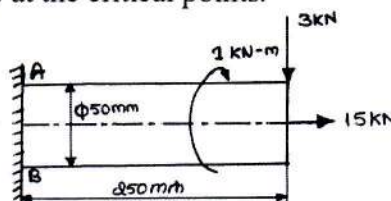

Fig.Q2(a)
- 2 a. A circular rod of diameter 50 mm is subjected to loads as shown in Fig.Q2(a). Determine the nature and magnitude of stress at the critical points.